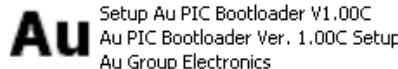

Figure C-1 - Setup Au PIC Boot-loader V1.00A icon
- Double click icon of the “Setup Au PIC Boot-loader V1.00B” to start installing Au PIC Boot-loader (Figure C-1).